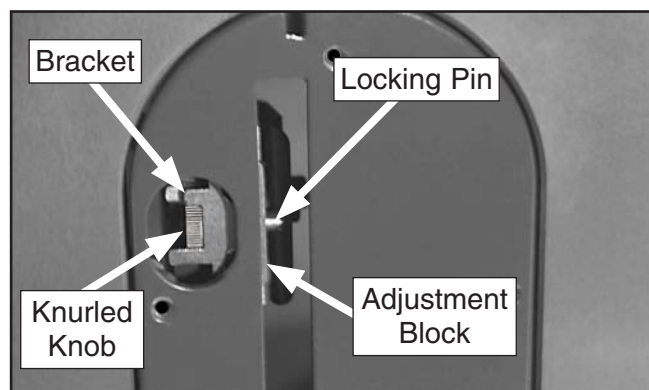

Figure 33. Knurled knob used to secure spreader.
1. Reinstall the table insert, slide the knurled knob out (see **Figure 33**) and rotate it forward so it engages the upper bracket.